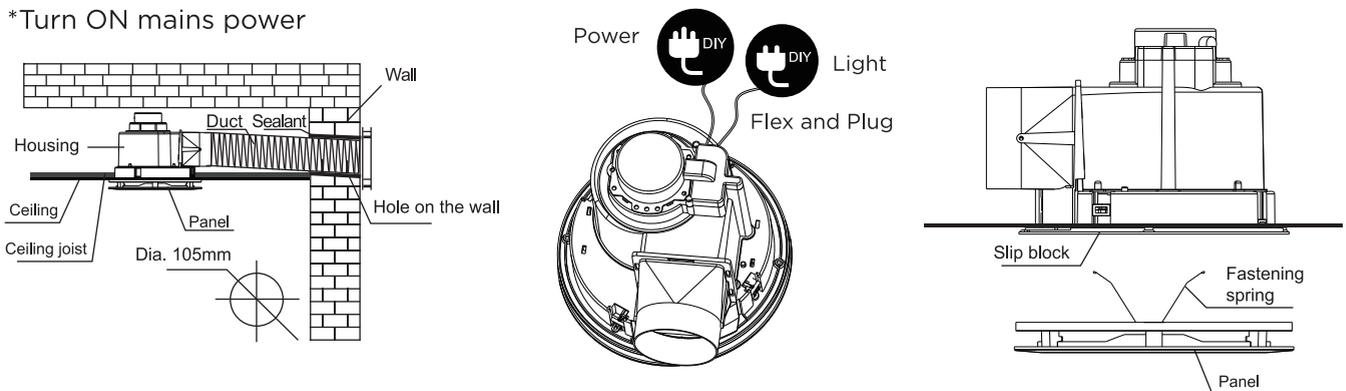

Figure 1: Installing ducting (sold separately) Figure 2: connect the power and Light Figure 3: Fix the fan in place and install cover
- *If ducting is required for ventilation. Install a 100mm duct pipe to the exhaust fan and lay the ducting across the ceiling and onto a suitable 100mm exhaust vent (see figure 1)